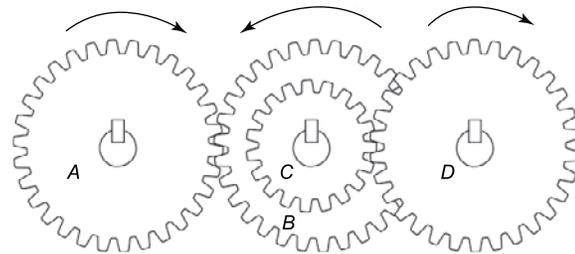

Figure 19.6
A **compound gear train** is shown in Figure 19.6, in which gear wheels *B* and *C* are fixed to the same shaft and hence $N_B = N_C$
Problem 8. A compound gear train similar to that shown in Figure 19.6 consists of a driver gear *A*, having 40 teeth, engaging with gear *B*, having 160 teeth. Attached to the same shaft as *B*, gear *C* has 48 teeth and meshes with gear *D* on the output shaft, having 96 teeth. Determine (a) the movement ratio of this gear system and (b) the efficiency when the force ratio is 6.
- A compound gear train is as shown in Figure 19.6. The movement ratio is 6 and the numbers of teeth on gears *A*, *C* and *D* are 25, 100 and 60, respectively. Determine the number of teeth on gear *B* and the force ratio when the efficiency is 60%. [250, 3.6]